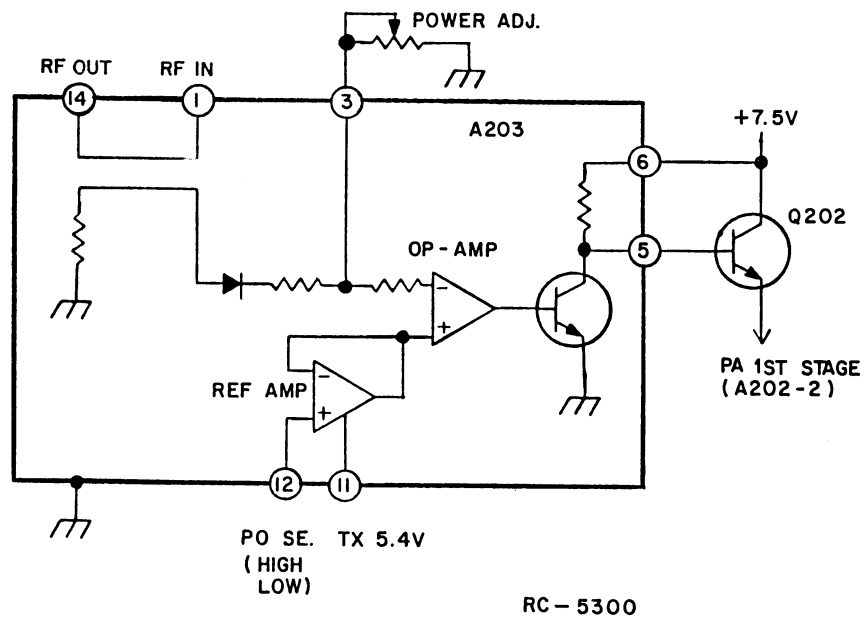

Figure 5 - Power Control Module (PC)
The RF power output of the radio is regulated by sensing variations in the RF power output of the transmit PA module to control the supply voltage to the first stage of the PA module (refer to Figure 5). Supply voltage cannot be applied to the first stage of the PA module until the transmit circuit is keyed, applying 5.4 Volts to Pin 11 of Power Control (PC) hybrid IC A203. When the transmit circuit is keyed, the output of a reference amplifier, determined by the High-Low power control, is applied to the positive (+) input of a comparator.